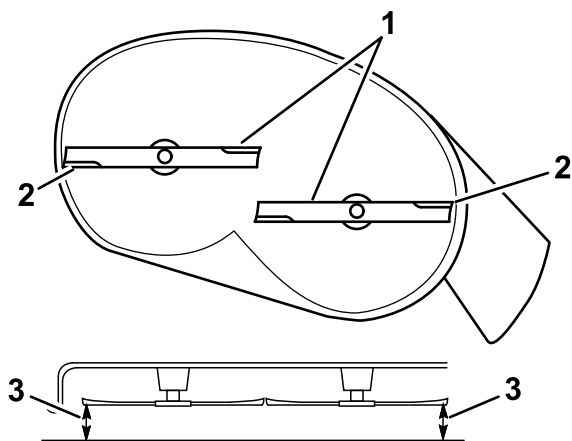

Figure 62
5. Measure between the outside cutting edges and the flat surface (Figure 62).